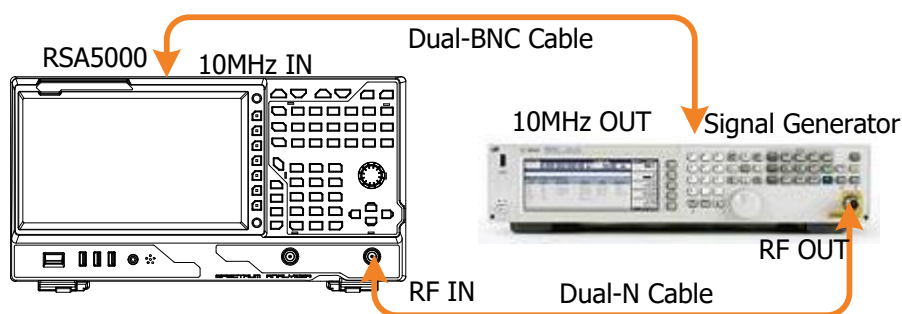

Figure 2-2 SSB Phase Noise Test Connection Diagram
2. Connect the output terminal of the signal generator with the RF input terminal of the spectrum analyzer, as shown in Figure 2-2.